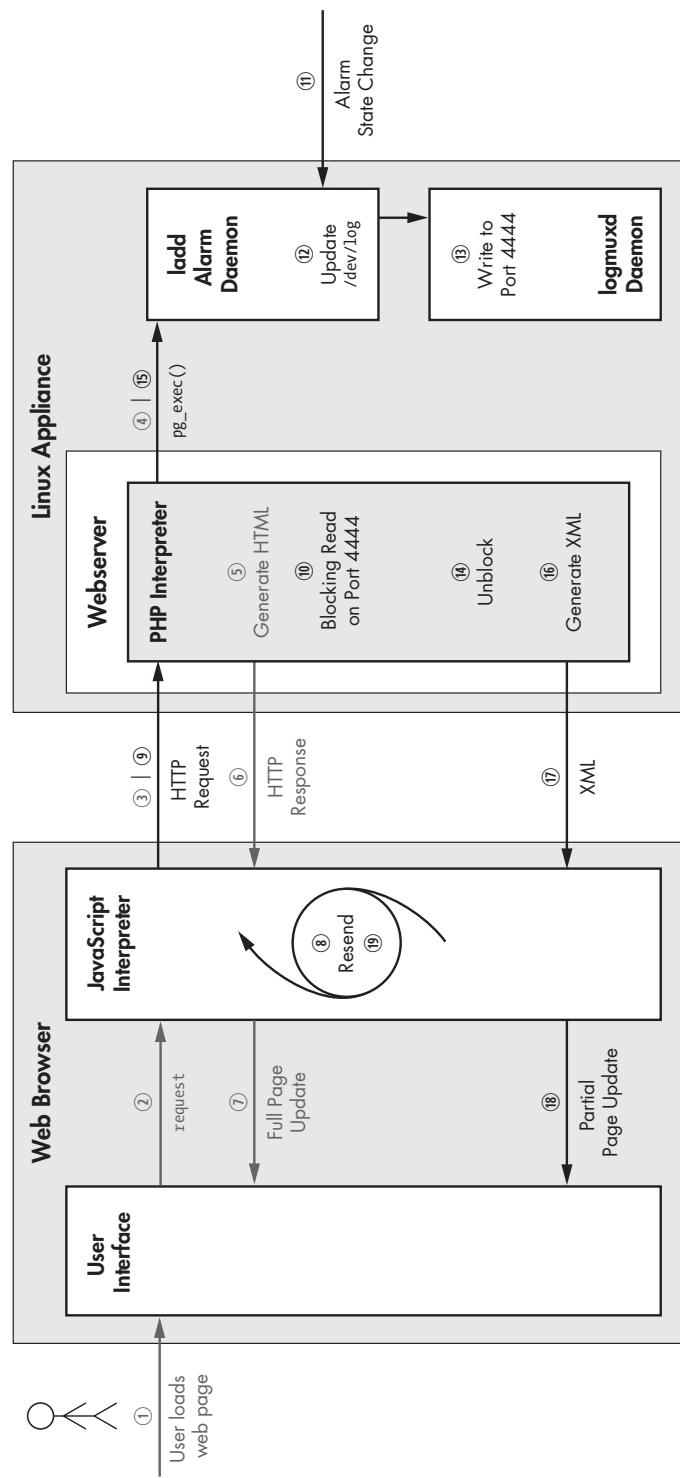

Figure 8-12: The Ajax sequence for an external event
Before we describe the details of this modified Ajax exchange, let's review the big picture. Figure 8-12 shows the sequence for a user requesting a new web page, with the first full page update and subsequent partial page updates. In terms of timing, events ① through ⑩ occur in quick succession after the user requests the particular web page. At this point, the web page is loaded with the latest alarm state. When some alarm state changes at event ⑪, it triggers events ⑫ through ⑯ in quick succession, at which point the web page is refreshed with the new alarm state. This latter sequence repeats until the user navigates away from the web page.